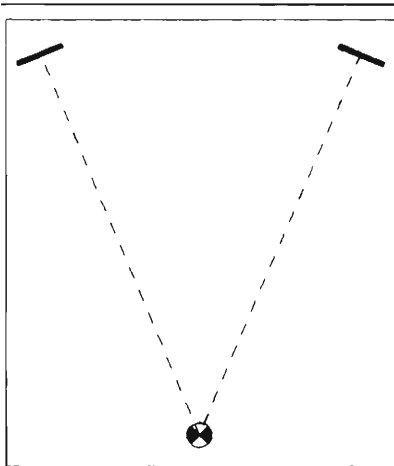

FIGURE 14-10: Musicians appear close to you in your room.
- A wide listening angle and distant focus produce an image of the musicians close to you in your room (Fig. 14-10).